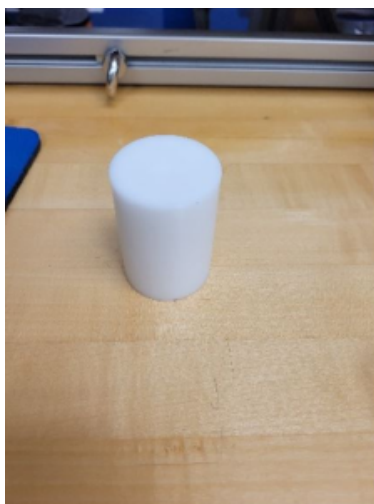

Figure 35: White plastic cylinder insert for bulk susceptibility
8. If the up/down manipulator is disabled, the white plastic cylinder (Figure 35) needs to be inserted into the pick-up coil prior to measurements. This is to ensure the specimens are placed at the correct height. The sticky kappabridge cleaning stick works best for inserting and removing the cylinder.